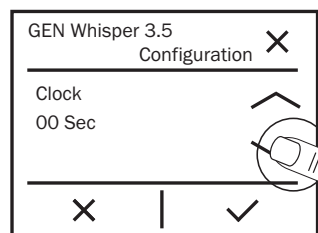

Figure 13
- 9 Touch the right pointing arrow > on the menu bar. The seconds setting of the clock is shown (figure 13). Touch the up/down pointing arrows to change. Example: 00. Then touch ✓ to confirm.